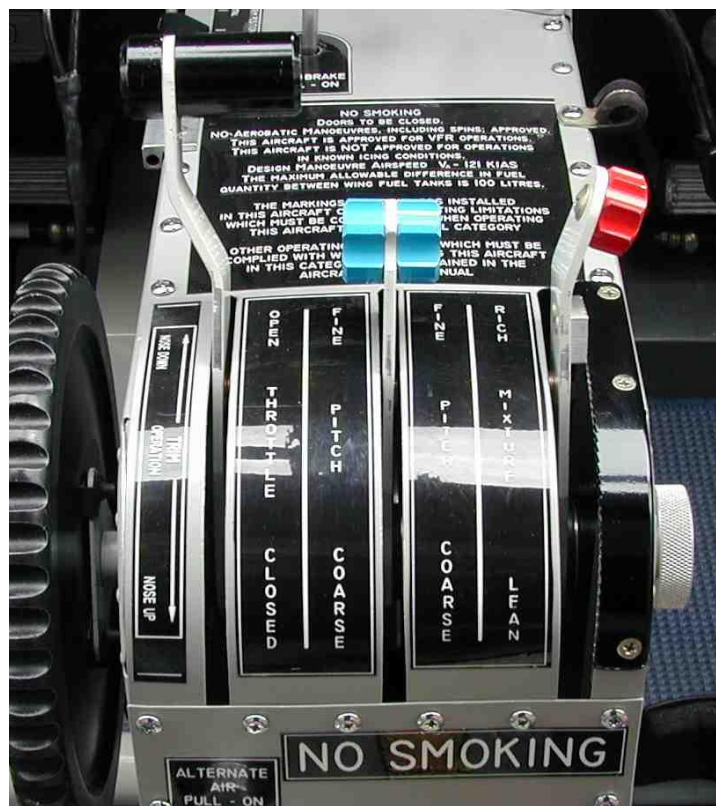

Figure 2 – Throttle quadrant placards
4. Remove throttle quadrant placards and replace with new placards (P/N GA8-112011-329 and GA8-112011-331) per Figure 2.